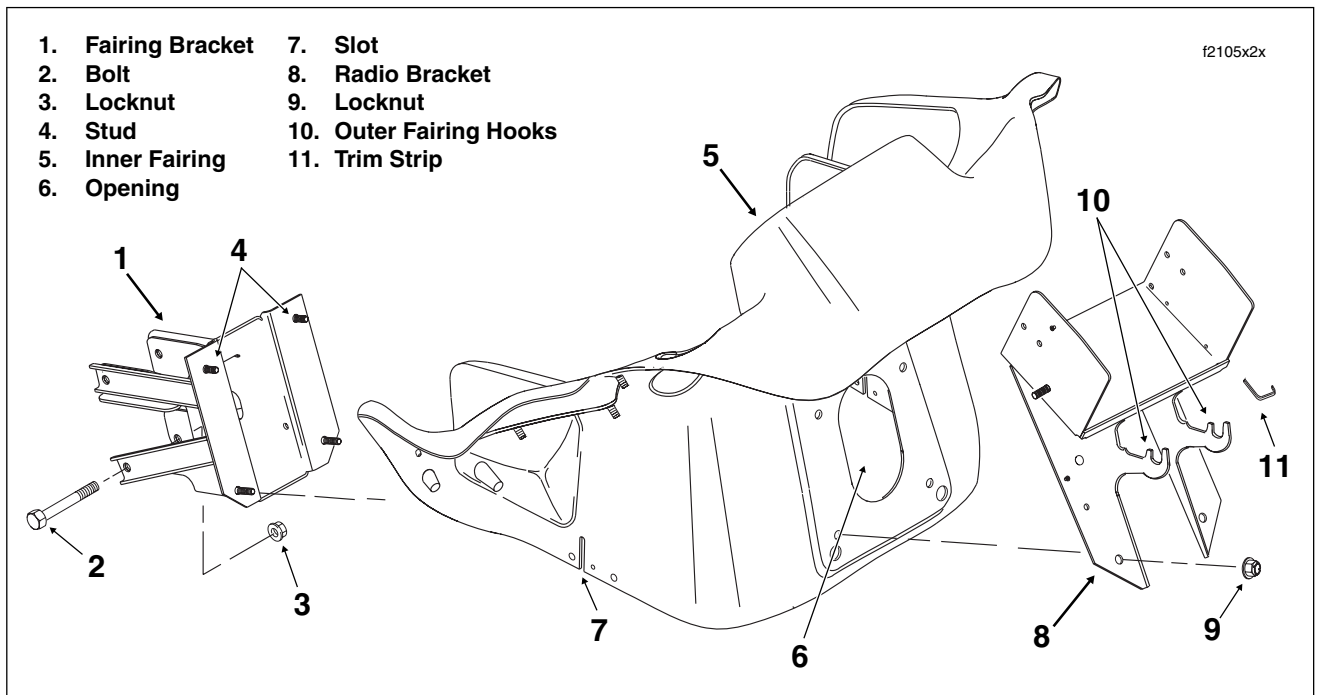

Figure 2-181. Inner Fairing Assembly
- Remove four locknuts to release radio bracket and inner fairing from studs of fairing bracket. See Figure 2-181.
8. Place inner fairing over four fairing bracket studs while feeding end of harness bundle through opening beneath radio. See Figure 2-181. Verify that sides of inner fairing are positioned outboard of both fairing supports (on engine guards).